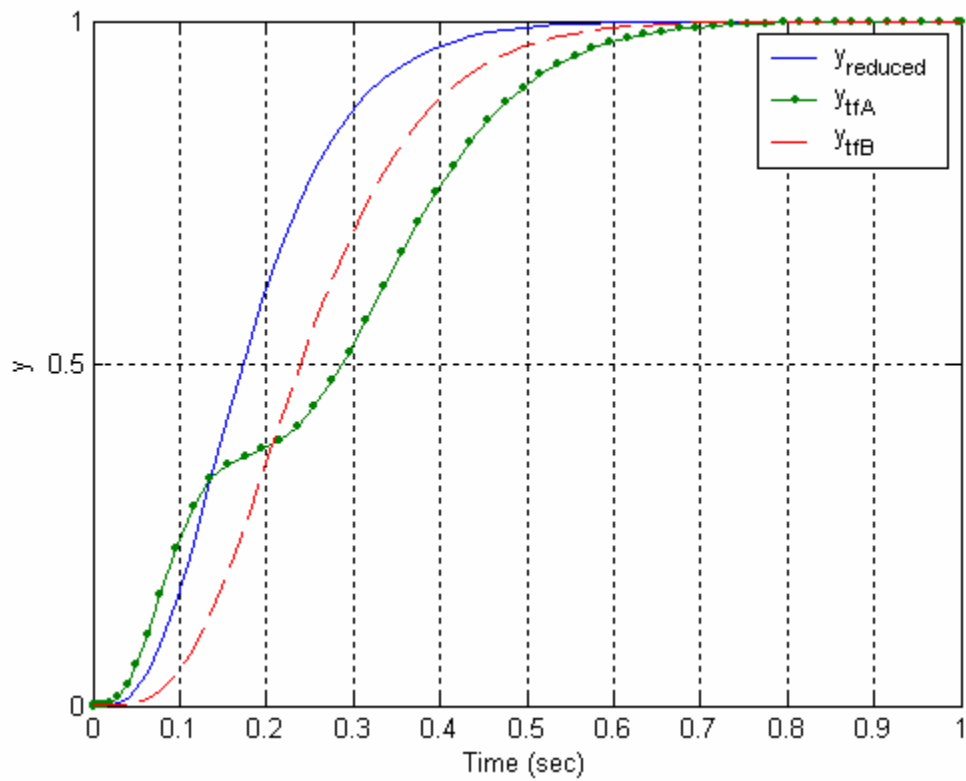

Figure 8. Results for 2f.
f) Modify part (e) so the position of the second cart is known and you want to control the position of the second cart. You should get results like those in Figure 8.